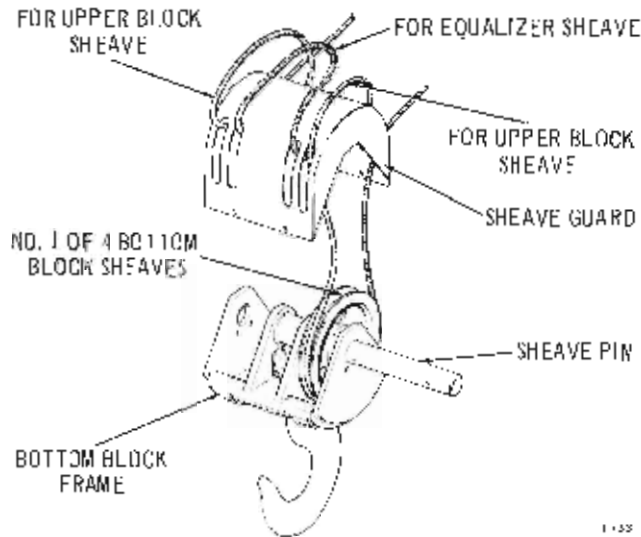

Figure 5-28. Installing First Part of Wire Rope in Four Part Double Reeved Bottom Block
11. Starting from either end of the bottom block, loop one part of the wire rope from the underside of the sheave guard around a bottom block sheave. Hold the wire rope on the sheave and replace it in the bottom block. Insert the sheave pin through that sheave to hold it in place (Figure 5-28).